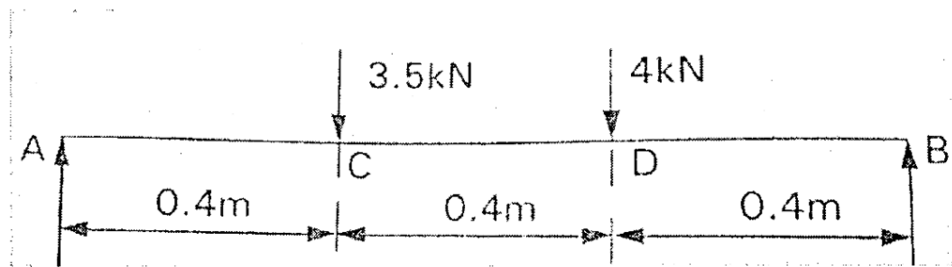

Fig.2
(b) Draw shear force and bending moment diagram of a simply supported beam shown in fig 2. (9)